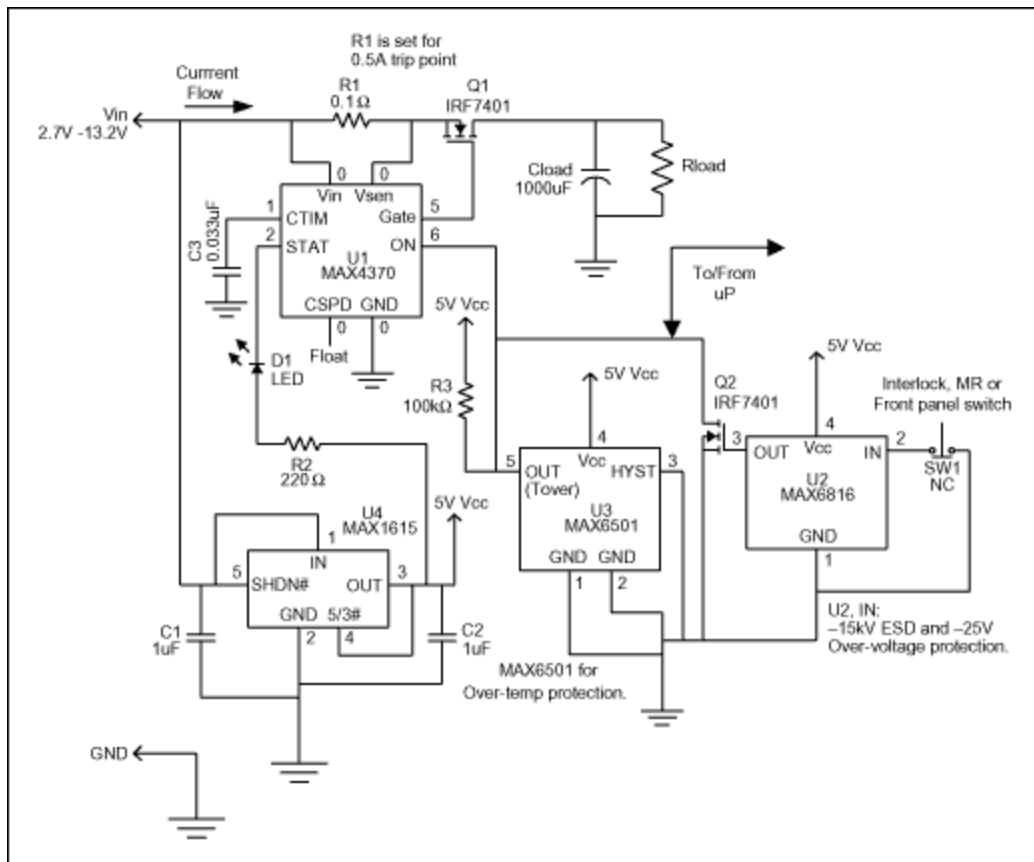

Figure 1. This circuit provides general over-current and over-temperature protection.
Figure 1 is a flexible circuit that limits current or removes power in response to a command from the user or other fault-indicating signal. It accommodates manual-reset (MR), over-temperature, and interlock-switch inputs. U1, for instance, is a circuit-breaker IC designed to offer protection in hot-swap applications. Residing on either the backplane/host side or the removable-card/remote-device side of the backplane connectors, it guards against start-up faults when a card or board is inserted into a rack or host with the main power supply turned on.